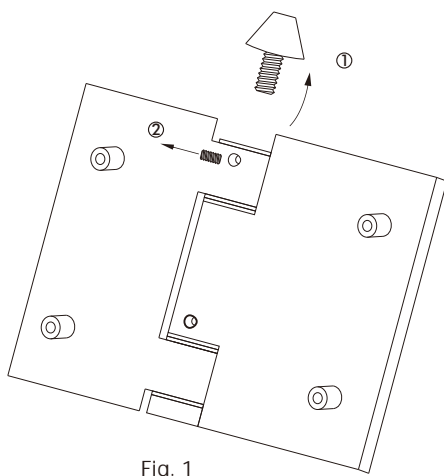

Fig. 1
- 1) Remove the conical cap and make a pencil line across the cap of the hinge body from the grub screw to the other side. This will act as a guide when adjusting the hinge strength. (Fig.1 step1).
- 2) Remove the grub screw at the top of the hinge completely and put it in a safe place. Doing this will take the tension off the hinge completely (Fig.1 step2). Do NOT touch the allen key at the bottom of the hinge for any reason.